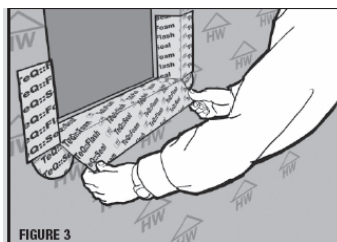

Figure 3
2.2.1 Pre-cut a length of 6" TeQ::Flash™ 12" longer than the sill rough opening. Apply pre-cut flashing by removing the release backing and carefully starting 6" up and 3" in rough opening (or minimum depth of window frame) on one jamb side. Continue to apply the flashing across sill and up opposite side jamb. Once the flashing is attached to the sill and jambs, make a cut in each corner to allow the remaining unattached flashing to fold out and over the exterior sheathing (Figure 3).